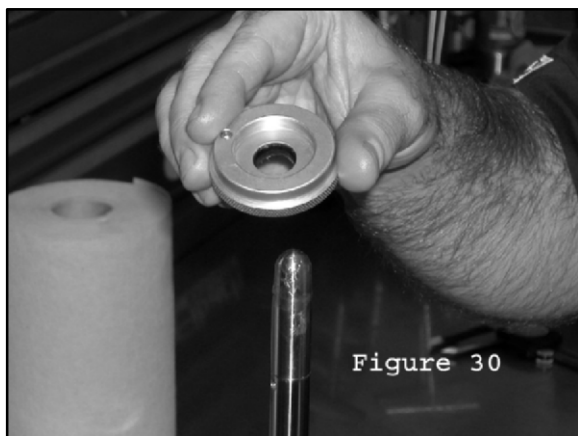

Figure 30
64. Lubricate the seal bullet tool with assembly lube. Slide the bearing cap onto shaft with the threaded side facing away from the shaft eyelet. (Fig. 30) This should be done in a single smooth motion to avoid damaging the seal. If seal hangs up on the edge of the shaft, **DO NOT FORCE IT ON.** Remove the bullet tool, with the bearing cap still attached, from the shaft end. (Fig. 32) Remove the bearing cap from the bullet tool, and repeat this step.